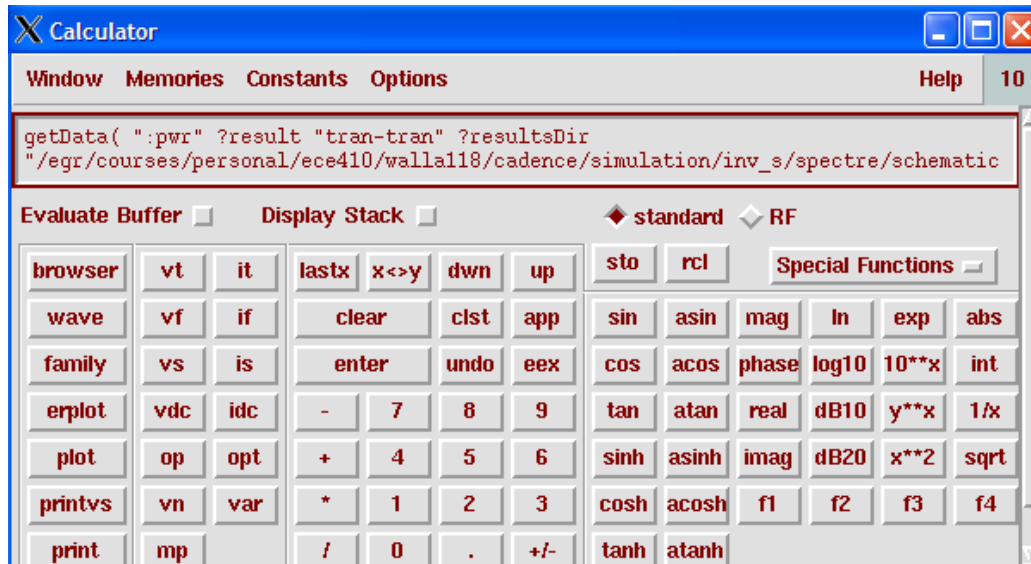

Figure 5: The Calculator Window, after selecting “pwr” from Results Browser
4. In the Results Browser, there should be a yellow box named “pwr”. **Left-click** on this box. This will open the Calculator, and the name/path of the specified power waveform should appear in the display (see **Figure 5**). You may also wish to right-click this box and view the waveform, as well.